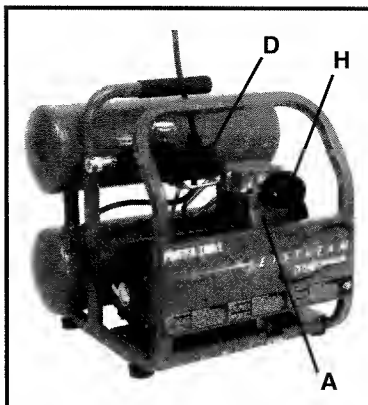

Fig. 1
**Air Compressor Pump (A) Fig. 1:** To compress air, the piston moves up and down in the cylinder. On the downstroke, air is drawn in through the intake valves. The exhaust valves remain closed. On the upstroke of the piston, air is compressed. The intake valves close and compressed air is forced out through the exhaust valves.
**Pressure Switch (D) Fig. 1:** The pressure switch automatically starts the motor when the tank pressure drops below the factory set "cut-in" pressure. It stops the motor when the air tank pressure reaches the factory set "cut-out" pressure.
**Air Intake Filter (H) Fig. 1:** This filter is designed to clean air flowing into the pump. This filter must always be clean and free from obstructions. Twist filter cover counter-clockwise to remove and expose paper filter element.